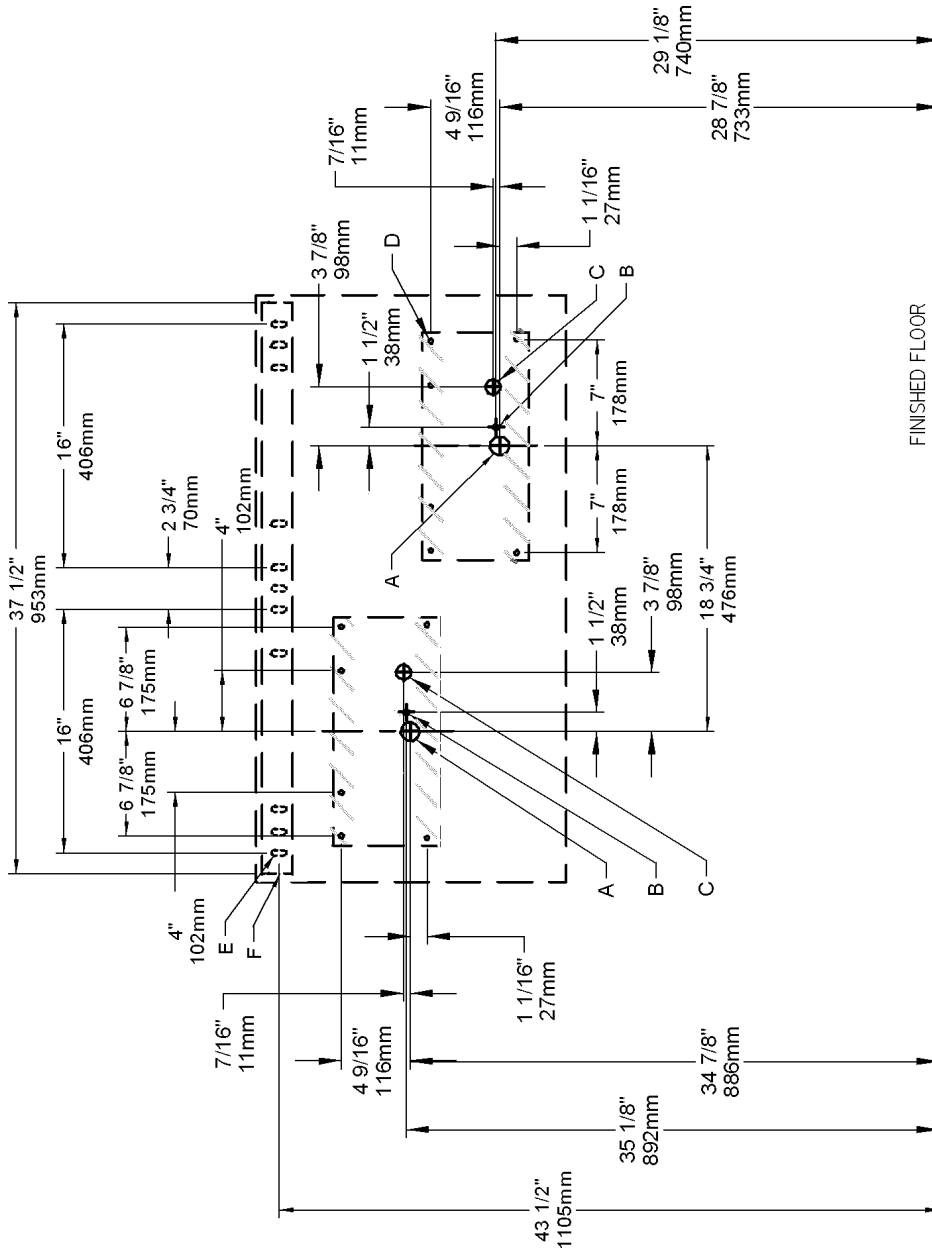

FIG. 3
- 1. Wall should** already be framed for the fountain using the positioning dimensions shown in Figure 3 or 4. Shown dimensions pertain to installation location (framing must support up to 300 lbs. weight). These dimensions are required for compliance with ANSI Standard A117.1/ADA requirements.